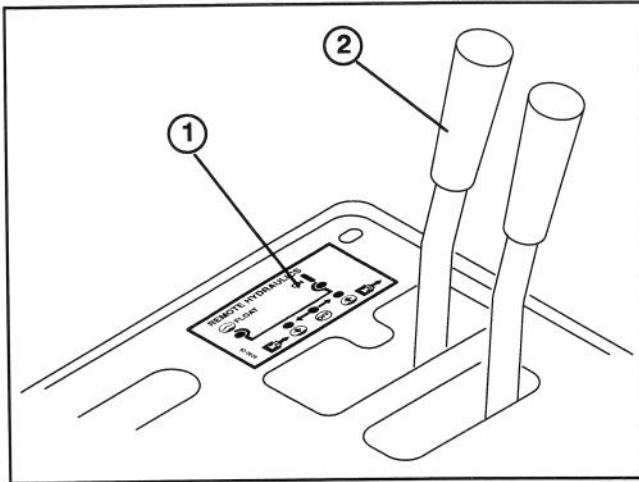

Figure 23
45. Clean console cover plate and install console decal to console, next to control lever, locating as shown in figure 23. Thread knobs onto respective control levers.